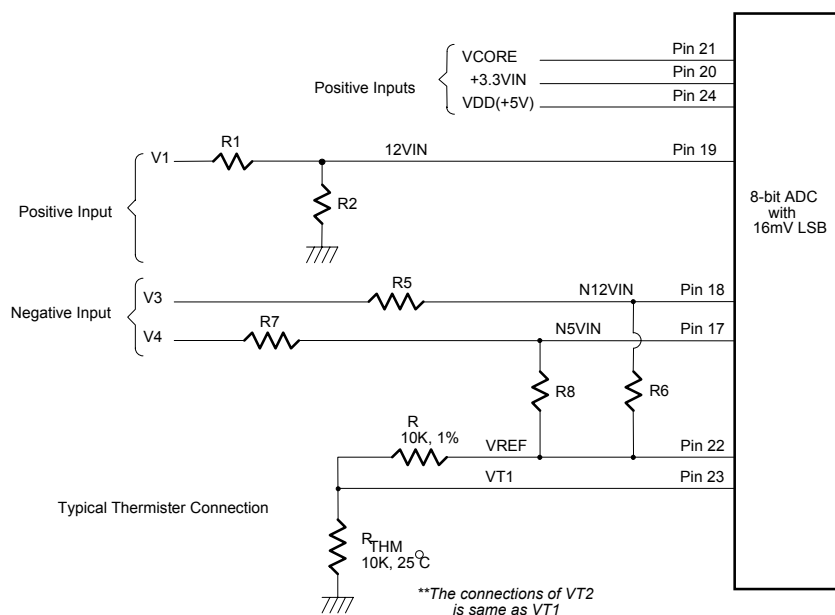

Figure 11.
The maximum input voltage of the analog pin is 4.096V because the 8-bit ADC has a 16mv LSB. Really, the application of the PC monitoring would most often be connected to power suppliers. The CPU V-core voltage, +3.3V and battery voltage can directly connected to these analog inputs. The 5VSB and +12V inputs should be reduced a factor with external resistors so as to obtain the input range. As Figure 11 shows.
The negative voltage should be connected two series resistors and a positive voltage VREF (is equal to 3.6V). In the Figure 11, the voltage V3 and V4 are two negative voltage which they are -12V and -5V respectively. The voltage V3 is connected to two serial resistors then is connected to another terminal VREF which is positive voltage. So as that the voltage node N12VIN can be obtain a posedge voltage if the scales of the two serial resirtors are carefully selected. It is recomanded from Winbond that the scale of two serial resistors are R5=232K ohms and R6=56K ohm. the The input voltage of node -12VIN can be calculated by following equation.
The W83783S can connect three thermistors to measure three different environment temperature. The specification of thermistor should be considered to (1)  $\beta$  value is 3435K, (2) resistor value is 10K ohms at 25°C. In the Figure 11, the thermistor is connected by a serial resistor with 10K Ohms, then connect to VREF (Pin 37).